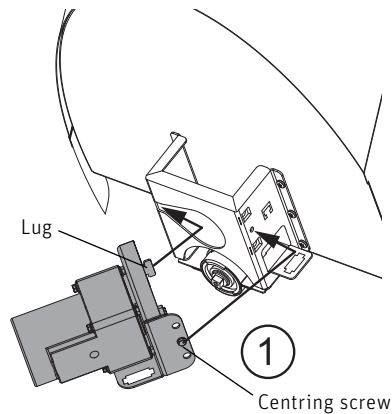

Fig. 49 Hook the auger motor into place
- ▶ Suspend the auger motor (located in the pellet boiler combustion chamber) at the rear via the lug and at the front with the locator pin – Fig. 49.